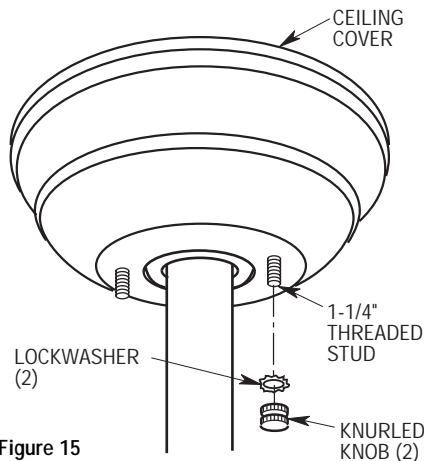

Figure 15
- 9. Lift the ceiling cover up to the threaded studs and turn until studs protrude through the holes in the ceiling cover (Figure 15).
- 10. Secure the ceiling cover in place by sliding lockwashers over the threaded studs and installing the two knurled knobs (supplied) (Figure 15). Tighten the knurled knobs securely until the ceiling cover fits snugly against the ceiling.